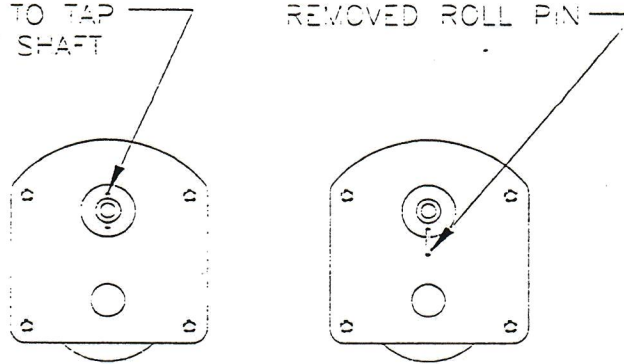

FIGURE 6
- Using a 3/32 punch and a small hammer, lightly tap the roll pin until it is removed from the motor shaft (See Fig. 6)